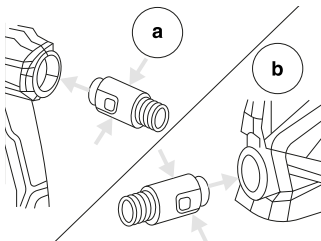

Fig3
- Mount the air hose (Fig. 3, a + b). Insert the air hose firmly into the connection of the unit and the gun handle. The position of the hose is not relevant.